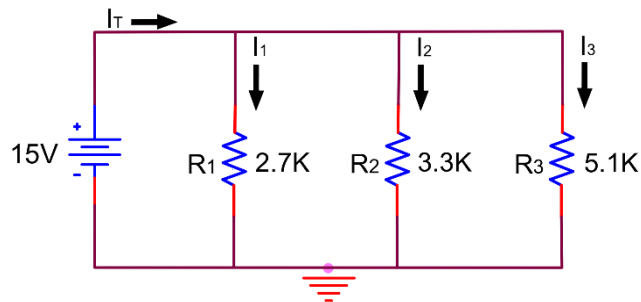

Figure 5.19
2. Use PSPICE to display all voltages and currents, refer to Figure 5.19. Compare these values to the ones obtained in the laboratory.